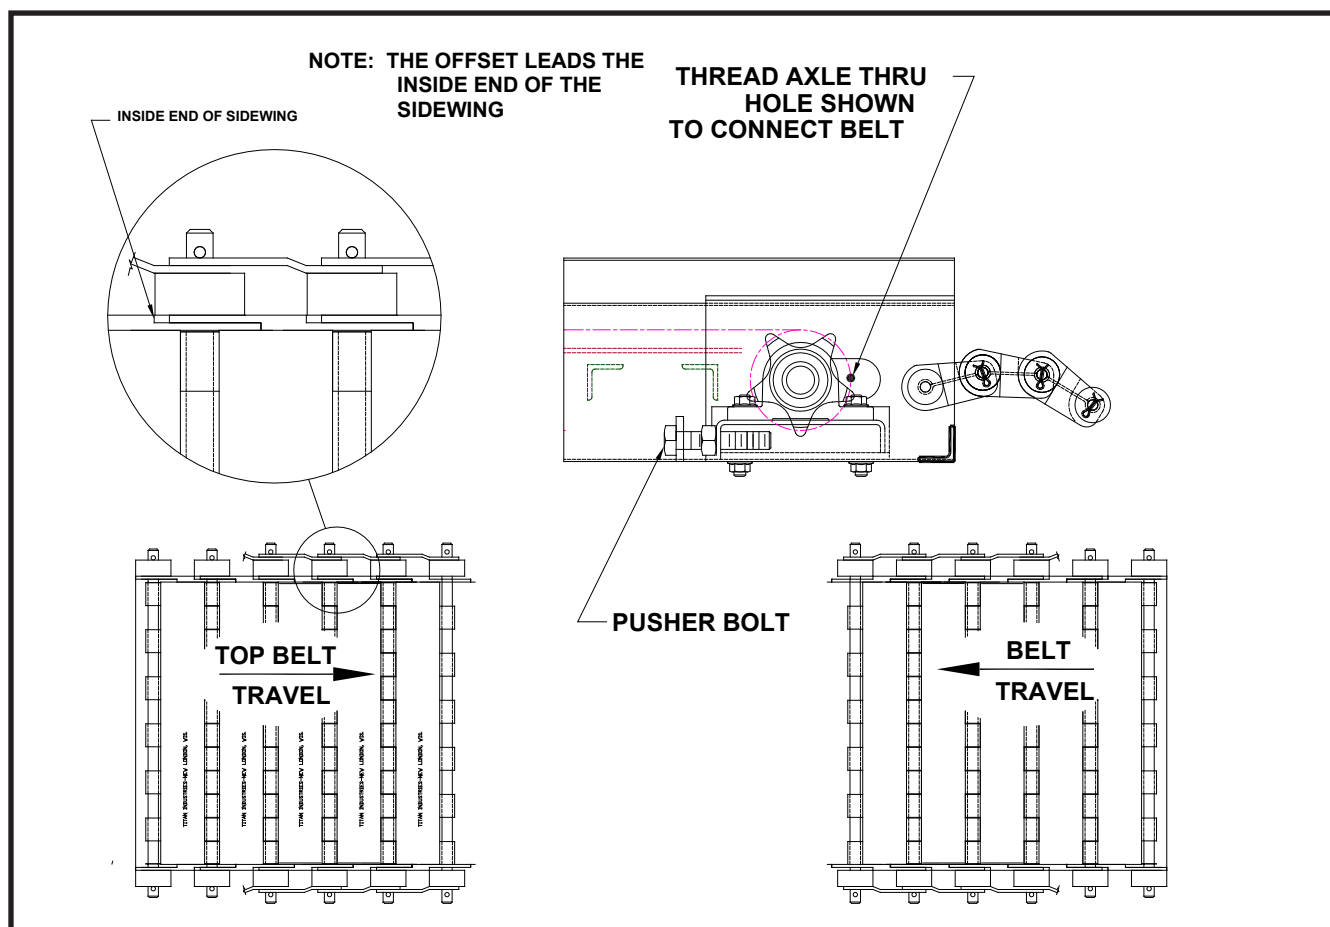

FIGURE 4
3. Feed the belt upside down into the return track. See FIGURE 4. If your belt was shipped in more than one section leave, a length of belt outside the frame to allow for connection of the next section of belt.
5. For final connection thread an axle thru the hole provided in the head plate to join the interlocking belt ends. See FIGURE 4
2. Run the belt for several hours before placing the conveyor into production. During this time watch how the belt is tracking. If the belt is running off to one side, loosen the bearing (on the drive end), on that side and with the pusher bolt provided (See FIGURE 4) move the driveplate out slightly. This will force the belt towards the opposite side. When the belt is tracking properly, tighten down the bearing and lock the pusher bolt in place with the locking nut provided.